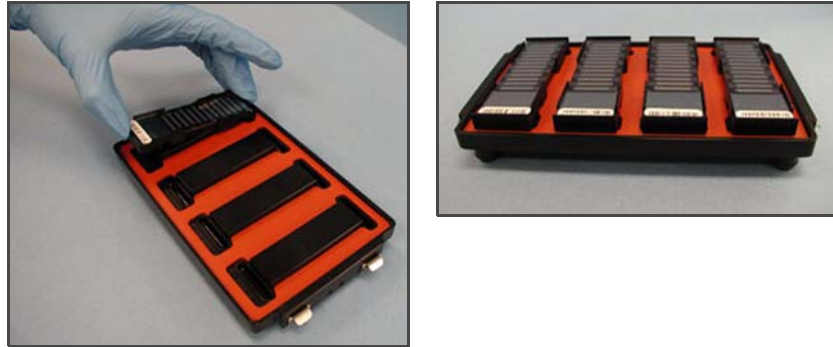

Figure 26 BeadChips in BeadChip Hyb Chamber
4. Load 4 Hyb Chamber Inserts containing sample-laden BeadChips into each Hyb Chamber (Figure 26).